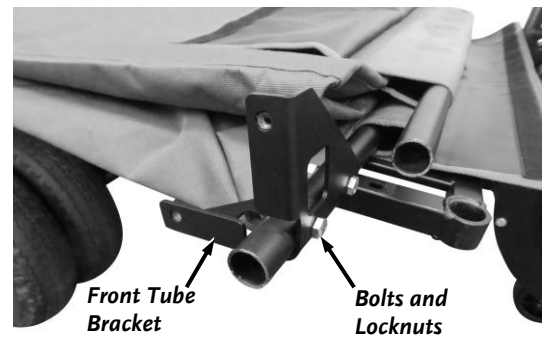

Figure 30
9. Position the Front Tube Bracket on the top Tube as shown and secure with two Bolts and Locknuts using two 1/2" Wrenches (**Figure 30**). Do not fully tighten. Ensure the fabric doesn't get pinched under the Bracket.